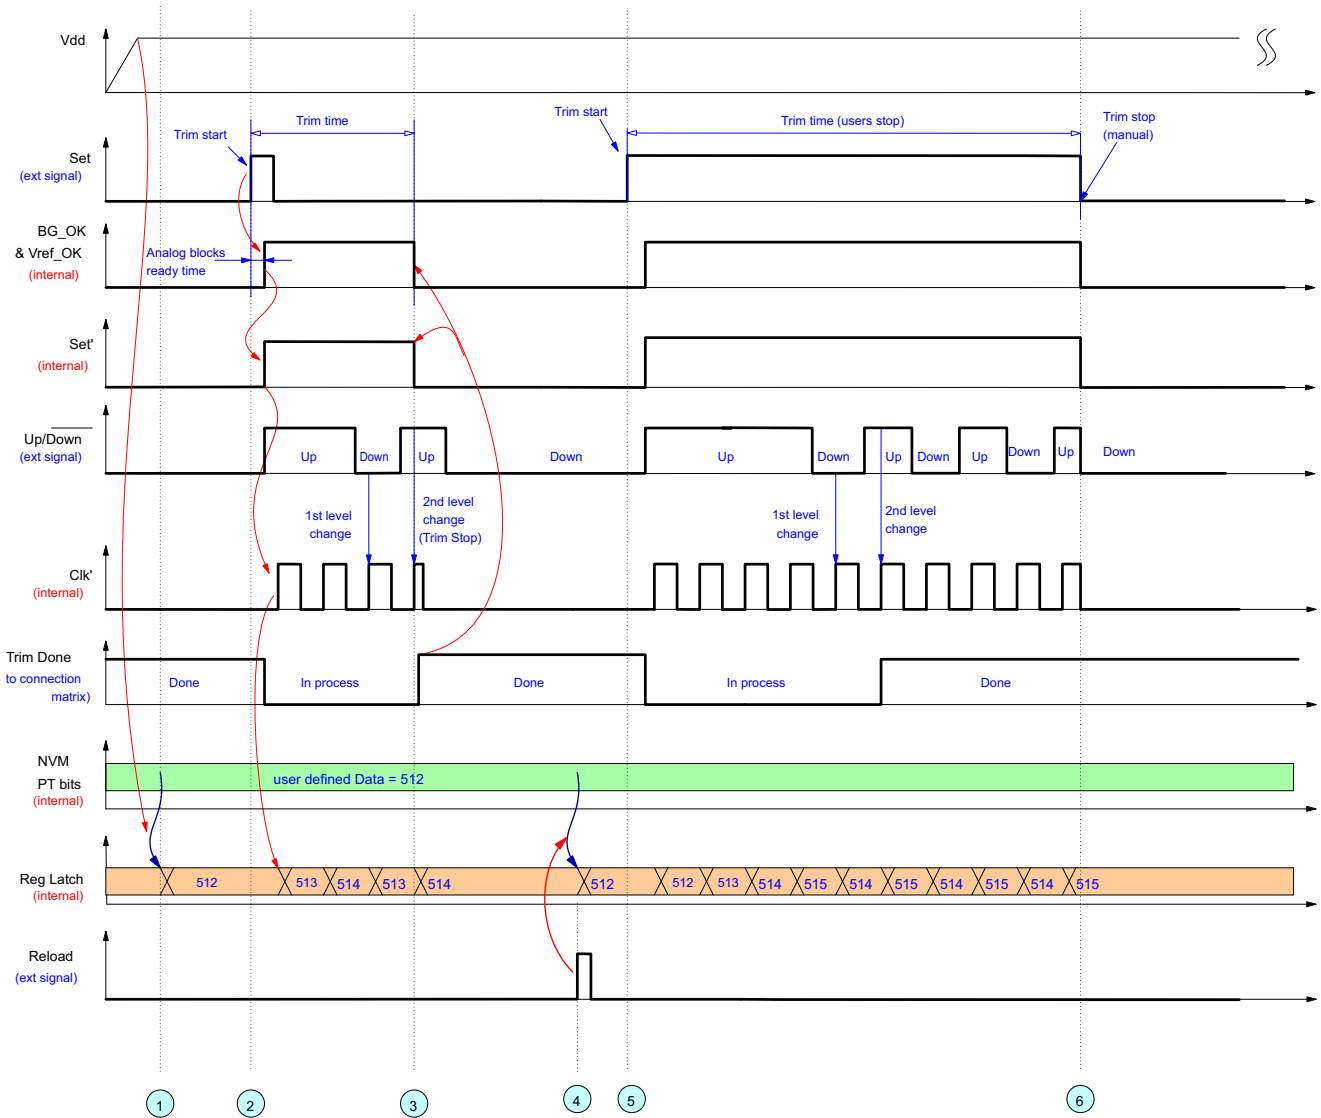
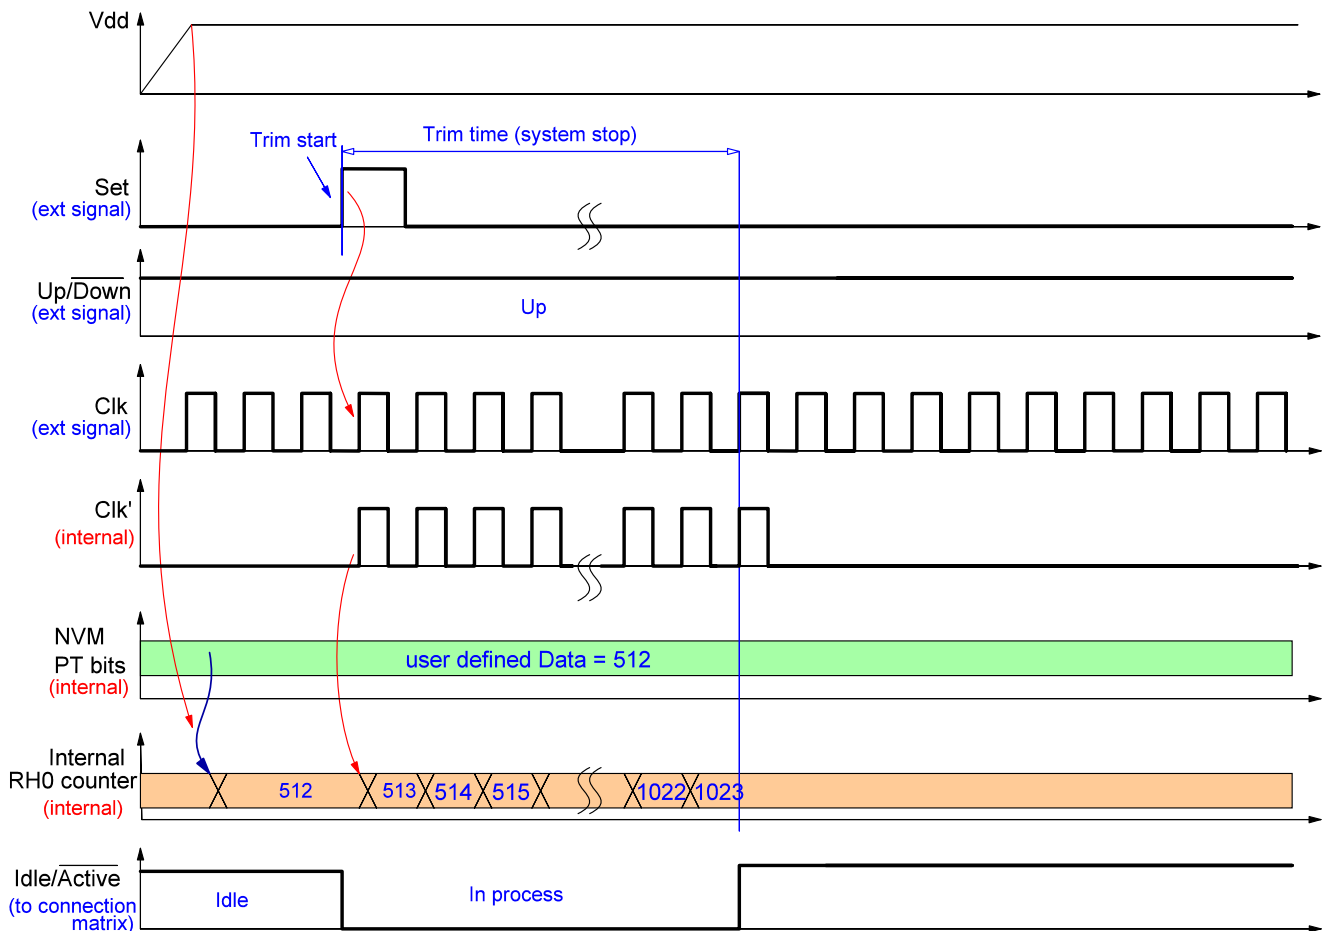
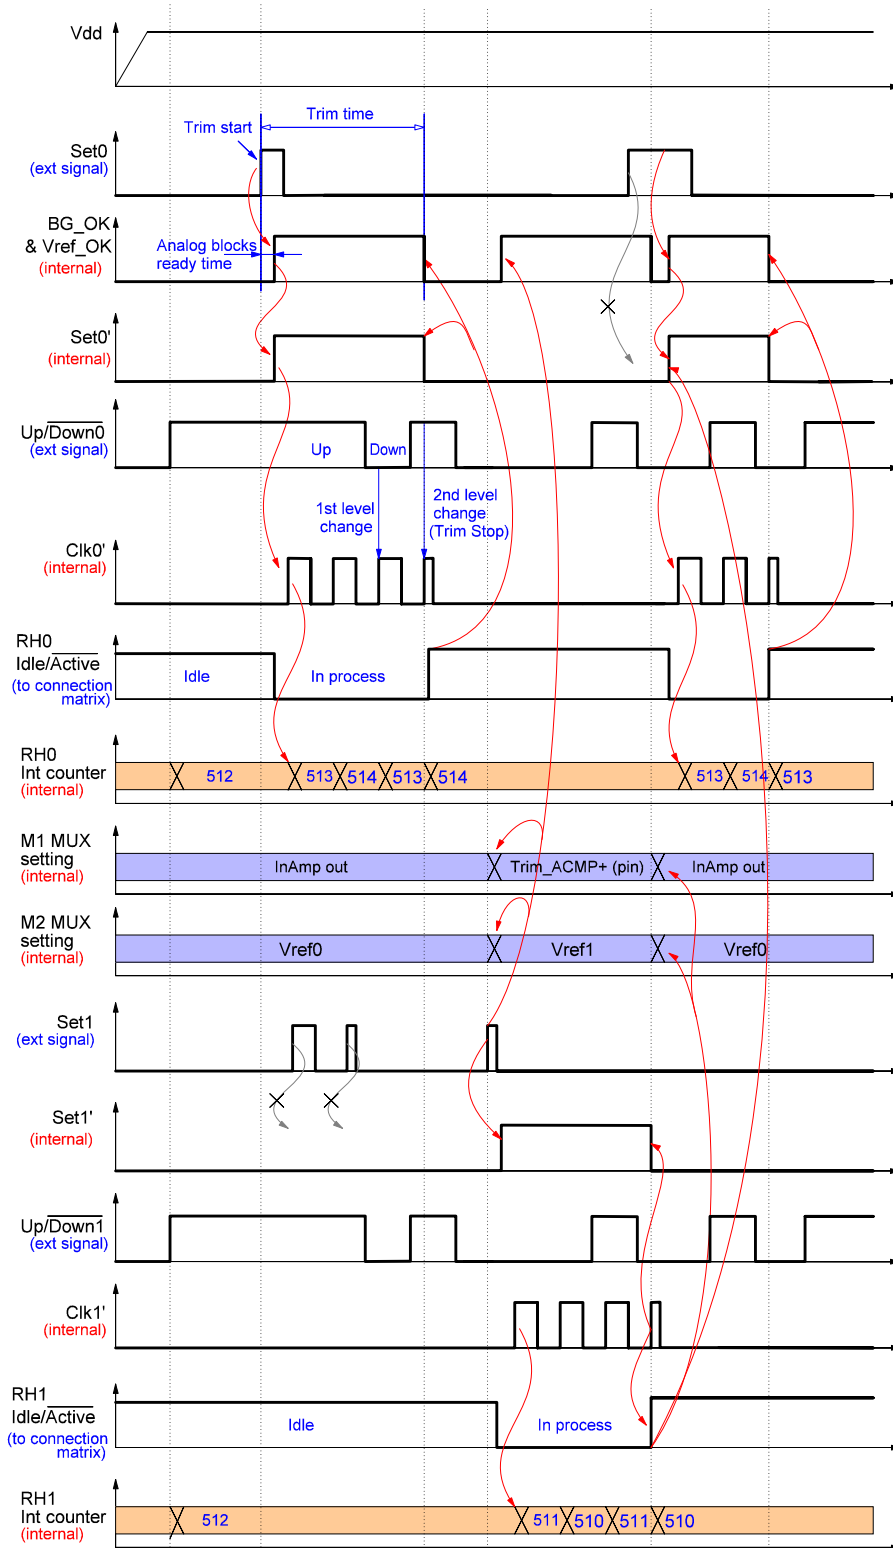

Figure 176. Example of Auto-Trim Process for a Single Rheostat
Figure 177. Example of Auto-Trim Process with External Clock Signal
Figure 178. Example of Auto-Trim Process for Two Rheostats
- 1) 2nd time change on Up/Down input at the moment of rising edge on Clock input (see Figure 176).
- 3) the value of rheostat reaches its minimum (0).Stop conditions result in a change of the Idle/Active signal, which resets the internal Auto-Trim logic.
The detailed flow of Auto-Trim process is shown in Figure 176, Figure 177, Figure 178.
The key events of the Auto-Trim process are the following (see Figure 176):
If the Set input signal is shorter than the trim time, the Auto-Trim process stops automatically after a stop condition occurs (event 3, Figure 176). However, if a stop condition comes and High logic level holds on the Set input, the rheostat value will be switched near the set point until a Low level on the Set input occurs (event 7, Figure 176). Note that the Idle/Active signal changes its level to High (Auto-Trim is done) even if the user keeps a High logic level at the Set input.
Figure 177 shows a similar Auto-Trim example. The only difference is that the user defined clock source as “External clock” from connection matrix. The clock pulses are present at the Clock input all the time, but have effect (rheostat value changes) during Trim time only. The stop condition for this case is the following: PT block reaches boundary value of 1023 and the logic level at change Set input is Low.
Figure 178 shows Auto-Trim process flow for two rheostats.